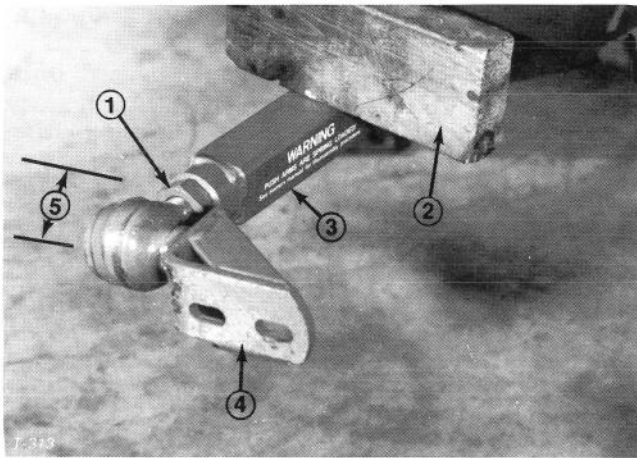

Figure 15
4. Have a helper push down on the left push arm; then insert a 2 x 4 in. (51 x 102 mm) block of wood between the frame and top of the push arm (Fig. 15). Screw ball joint into left hand push arm until center of ball joint is 2-3/8 inches (60 mm) away from front of push arm (Fig. 15). Do not tighten jam nut.